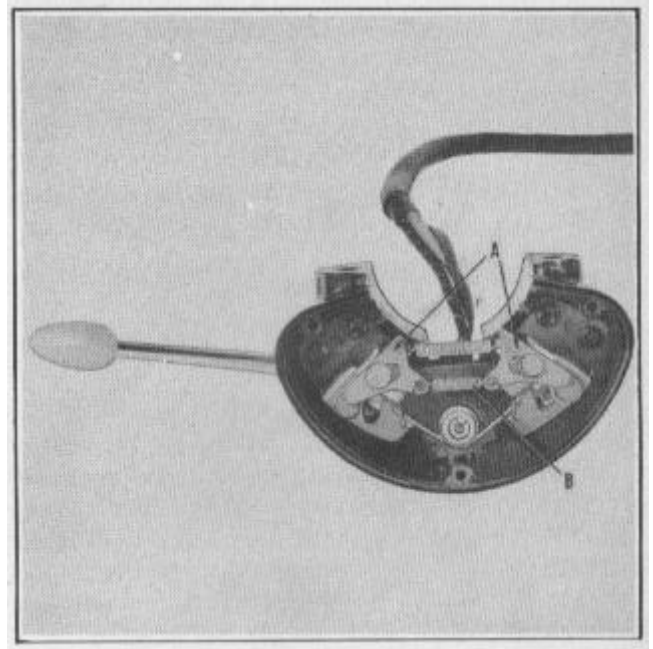

FIGURE 5
1. Remove switch case cover and check canceling pawls (A), Figure 5, to see that they slide freely. Apply a small amount of vaseline to slot in each pawl.
2. Move switch lever up and turn steering 1/2 turn right. Canceling pin in steering wheel hub should strike and pass left pawl without moving switch. The pawl spring (B) should return the pawl to extended position when the pin clears.